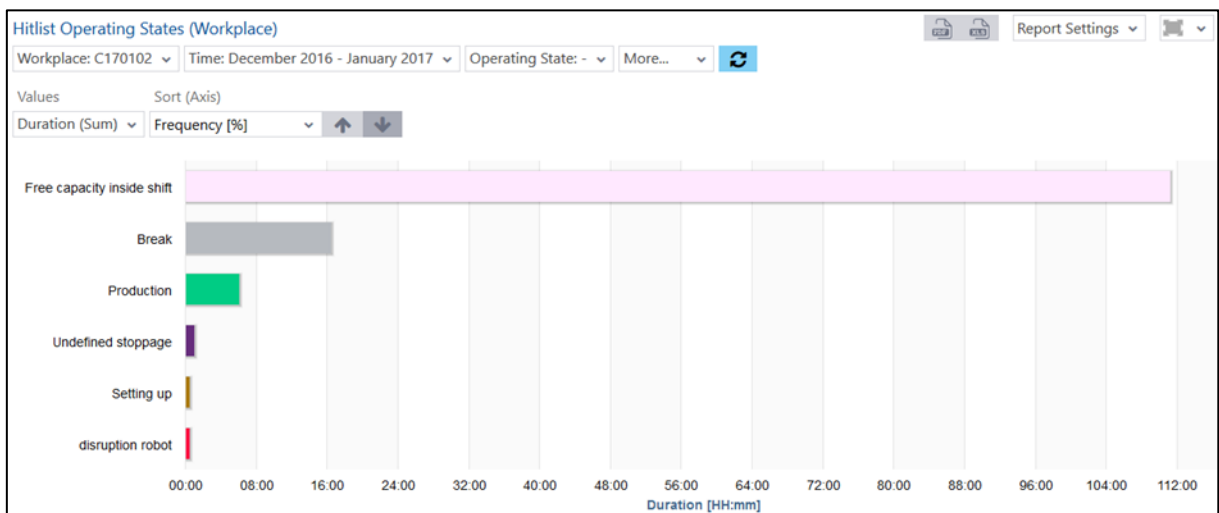

Fig. 63: Hit list of operating states (workplace) as bar chart
- Hit list operating states (workplace) as bar chart (Fig. 63):